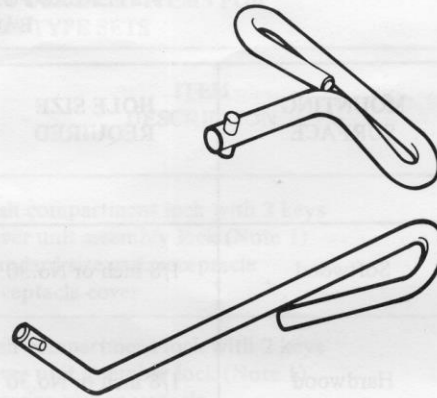

Fig. 7 – P0896911 and P0532301 Tools
Tool, P0896911 Tool, P0532301	To remove hood, cover assemblies, and coin receptacle door. The tools are shown in Fig. 7.
- (a) Using the P0896911 or P0532301 tool (Fig. 7) remove the hood and cover assembly as described in Chart 1.